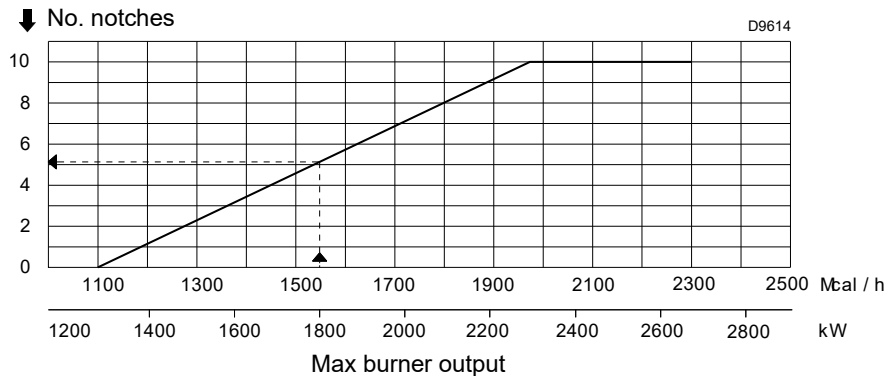
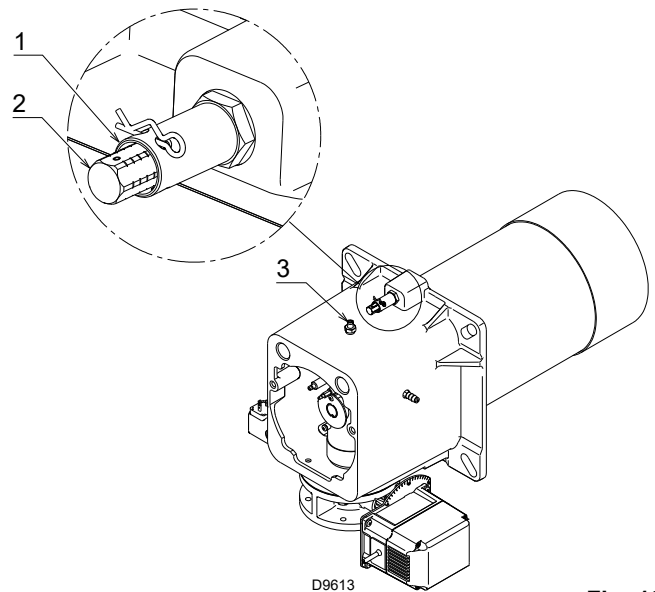

Fig. 17
Fig. 18
In the diagram (Fig. 17) find the notch at which to adjust the screw 2)(Fig. 18).
- Rotate the screw 2)(Fig. 18) until the notch you have found corresponds with the front surface 1) of the flange.
To facilitate adjustment, loosen the screw 3)(Fig. 18), adjust and then lock.
According to diagram (Fig. 17) the gas and air adjustments for this output are carried out on notch 5.